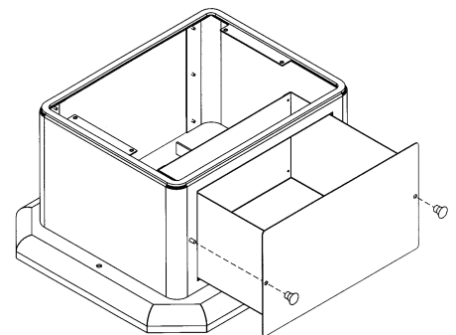

FIGURE 24
- Periodically remove and empty ash bin (see Figure 24) by unscrewing the two knobs on the front of the pedestal below the ash lip. Dispose of ashes properly. (See "ASH REMOVAL" above)